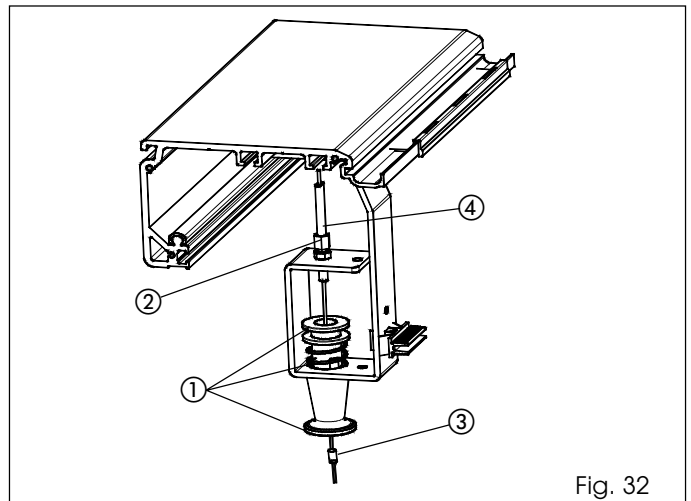

Fig. 32
- Assemble the release knob as indicated in fig. 32 ref. ①.
- Screw the adjuster, with the relevant lock nuts, on the internal part of the bracket (fig. 32 ref. ②).
- Secure the steel cable with the cable gland and the appropriate screw (fig. 32 ref. ③).
- Take the cable sheath against the adjuster (fig. 32 ref. ④).